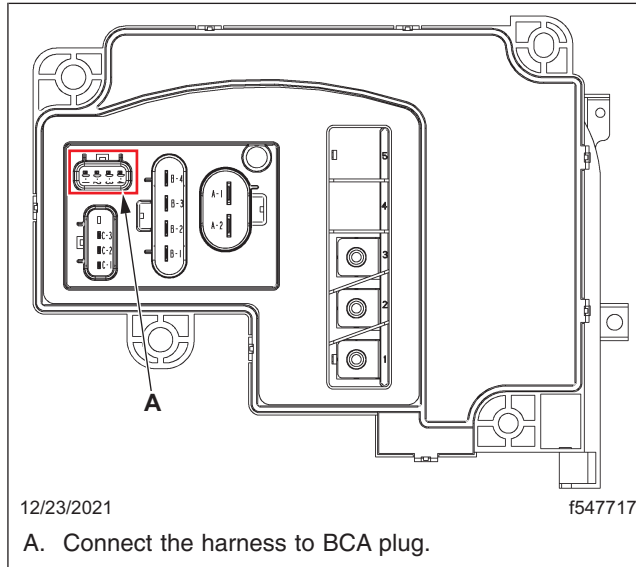

Fig. 8, BCA Harness Connector
3. Connect the new harness to the BCA in the location shown in **Fig. 8**.